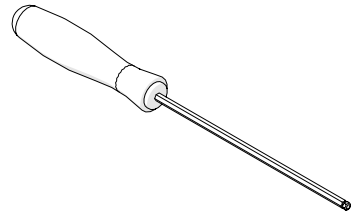

Fig. 18 - 2 mm hex driver
- ▶ The 2 mm hex driver adjusts the index nuts (Fig. 18).